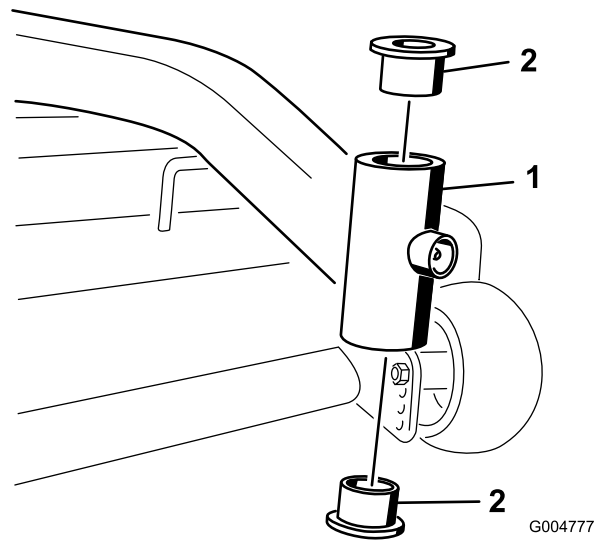

Figure 40
4. Insert a pin punch into the mounting tube and carefully drive out the bushings (Figure 40). Clean the inside of the mounting tube.